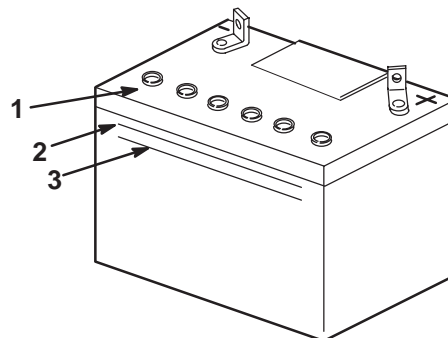

Figure 56
2. Look at the side of the battery. The electrolyte must be up to the **upper** line (Fig. 56). Do not allow the electrolyte to get below the **lower** line (Fig. 56).
3. Remove the vent caps from the battery (Fig. 56).
4. Slowly pour distilled water into each battery cell until the level is up to the **upper** line (Fig. 56) on the battery case.
5. Wait five to ten minutes after filling the battery cells. Add distilled water, if necessary, until the electrolyte level is up to the **upper** line (Fig. 56) on the battery case.